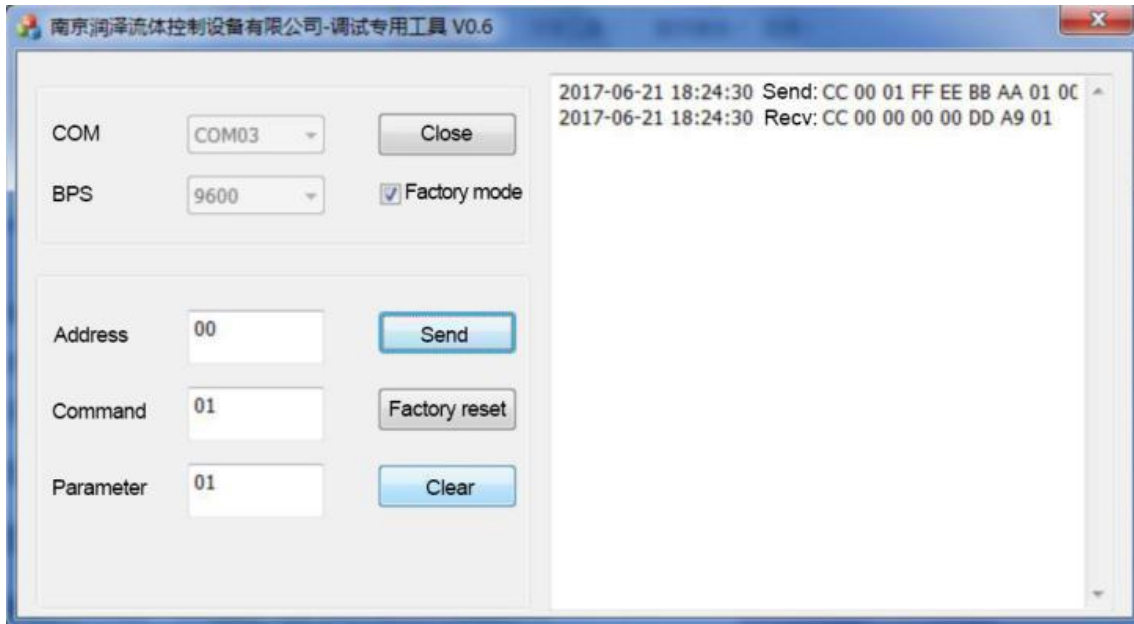

Figure 3
1. Check out "Factory command" (as Figure 3)
2. Input "00" into "Address" (default as 00, if address has been changed then input new address); Input speed setting code "01" into "Command"; Input target speed code "01" into "Parameter"; Click "send" , if received commands as Figure 3, settings are correct. (All the parameters are hexadecimal)